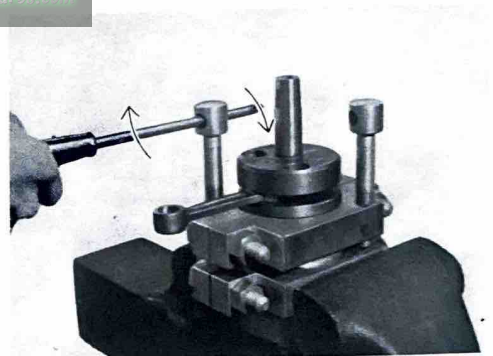

Fig. 4-17-8
- 4) Hold the crankshaft ass'y in a vice, and disassemble the ass'y into two parts by alternately giving one turn to each bolt (3) which is installed on the tool (2), so that the crankshaft ass'y splits into two parts. (Fig. 4-17-8)